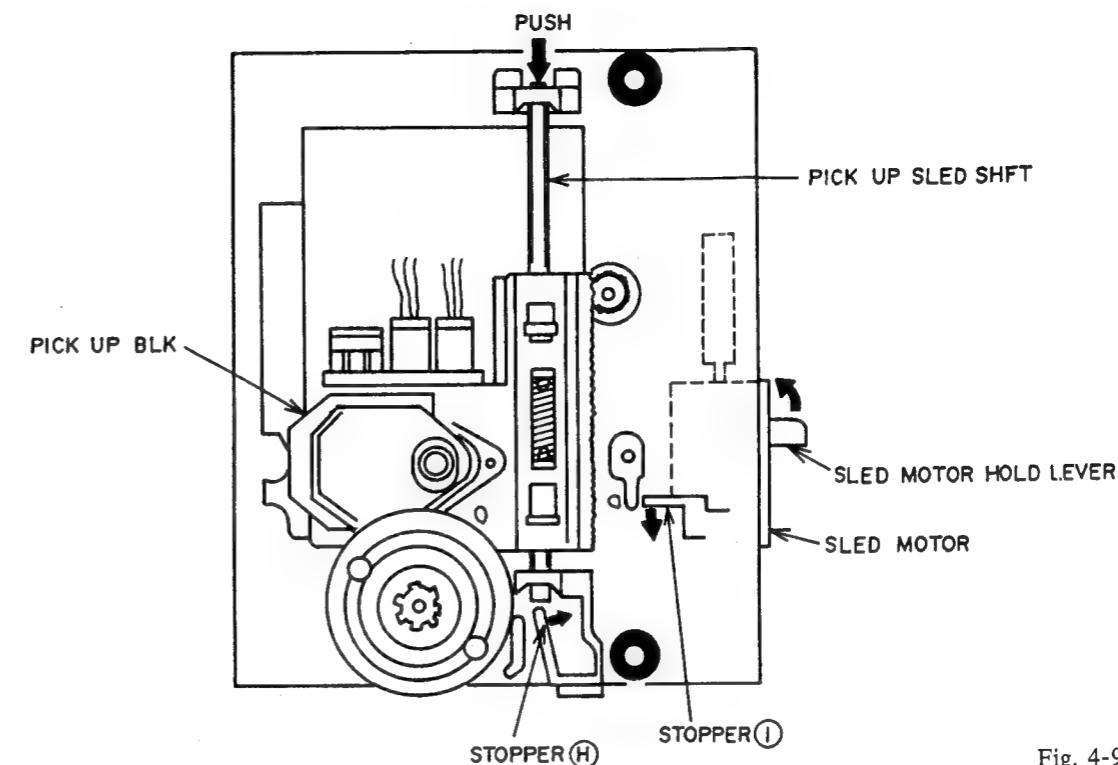

Fig. 4-9
- 1) Push PICK UP SLED SHAFT while releasing the STOPPER **H** as shown Fig.4-9 and pull out the PICK UP SLED SHAFT, then remove PICK UP BLK.
- 1) Turn the SLED MOTOR HOLD LEVER while releasing the STOPPER **I** (Refer to Fig.4-9) and remove SLED MOTOR.